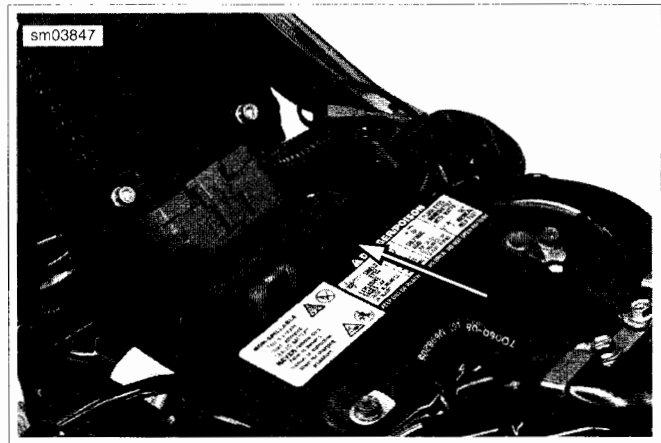
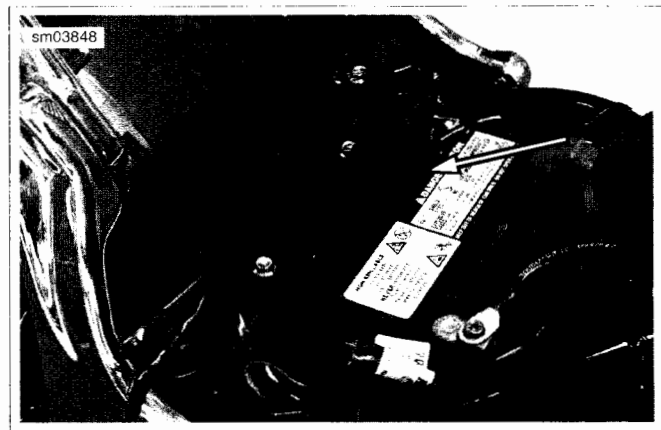

Figure 7-11. Fuse Block Cover (All Except FXCWC)
Figure 7-12. Fuse Block Cover (FXCWC)
3. See Figure 7-11 (all but FXCWC) or Figure 7-12 (FXCWC). Pull cover away from fuse block.